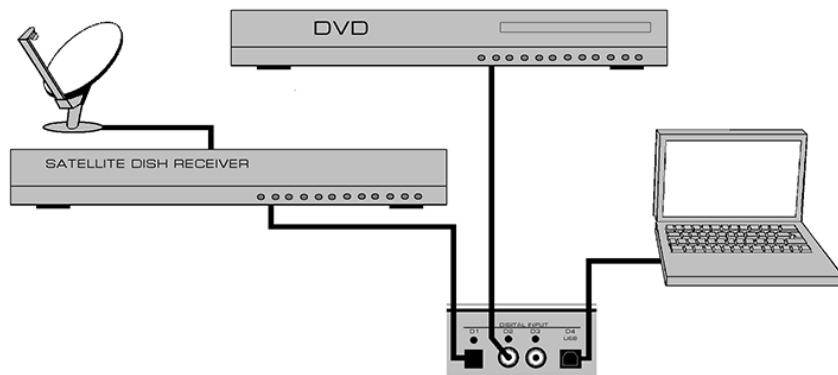

Figure 2: Nëo 350P Optional Digital Inputs – connection examples
There are two (2) different settings available for setting the resistive load; 100Ω and 47kΩ which are represented by jumper sockets R12 for the left channel and jumper socket R29 for the right channel (refer to figure 2 – section labeled "LOADING"). The factory default setting is 47kΩ, therefore both jumpers will be found in each of the two left most sockets.
There are two (2) different settings available for the capacitive load; 0pF and 100pF which are represented by jumper sockets C9 for the left channel and jumper sockets C17 for the right channel (refer to figure 2 – section labeled "LOADING"). The factory default setting is 100pF for a moving magnet cartridge, therefore both jumpers will be found in each of the two right most sockets.
There are two (2) different settings available for gain level. They are 40dB for MM cartridges and 60dB for MC cartridges, which are represented by jumper socket J18 for the left channel and jumper socket J24 for the right channel (refer to figure 2 – section labeled "GAIN"). The factory default setting is for a MM cartridge, therefore both jumpers will be found in each of the two right most sockets labeled MM; **It is highly recommended that you do not use the jumpers labeled MC for an MM cartridge as this will overload the 350P.** When using a MC cartridge, you should insert the supplied jumpers into each of the two left-most sockets labeled MC.
The rear panel will look similar to Figure 2 (above). There are two (2) pairs of balanced analog inputs on XLR connectors labeled “B1” and “B2” with their respective left and right channel connections beside each other. Immediately below are four (4) pairs of single-ended analog inputs on RCA connectors labeled CD, A1, A2/HT and A3/PH. The RCA input and output connectors on the rear panel have been color coded: ‘white’ for the left channel and ‘red’ for the right channel. If your **Nêo 350P** is equipped with the optional phono section, the input labeled ‘A3/P’ must be used to connect your turntable interconnect leads to this preamplifier. If you don’t have the optional phono section installed, then this input can be used in the same way as CD, A1 and A2 inputs. This preamplifier is also equipped with a single-ended monitor loop; the input and output connectors for each channel are located to the right of the four pairs of single-ended analog inputs.